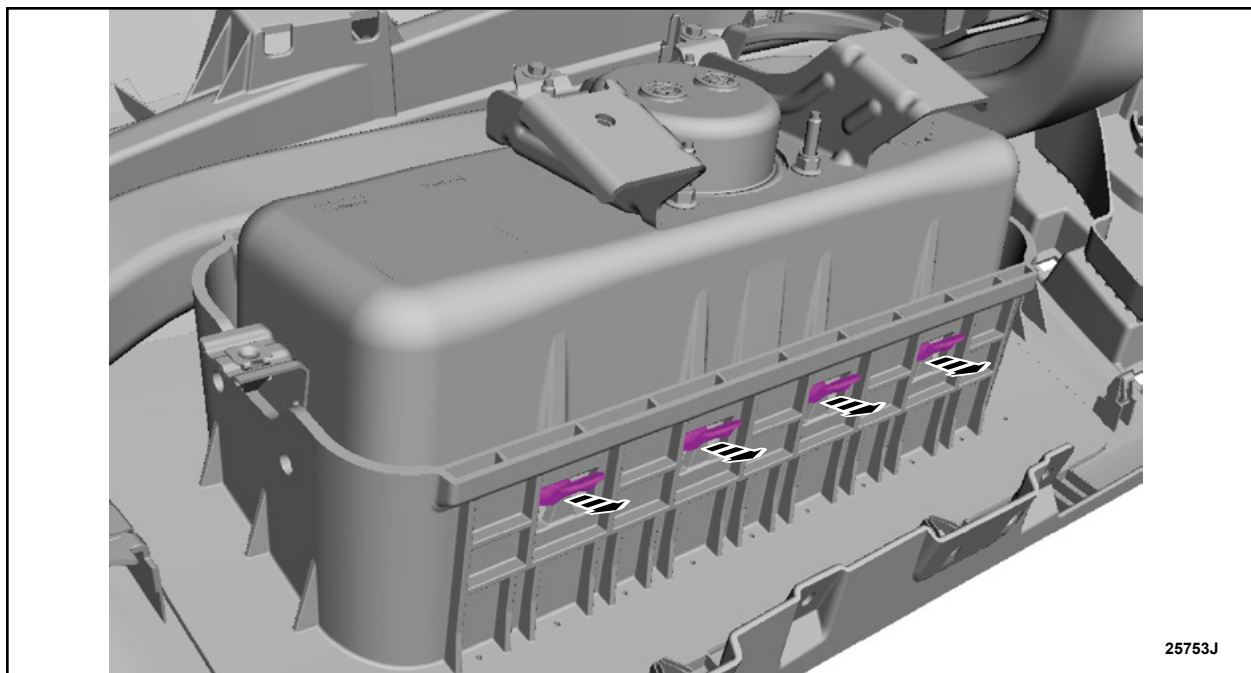

FIGURE 10
12. Engage the passenger airbag retainers to the deployment chute. See Figure 10.